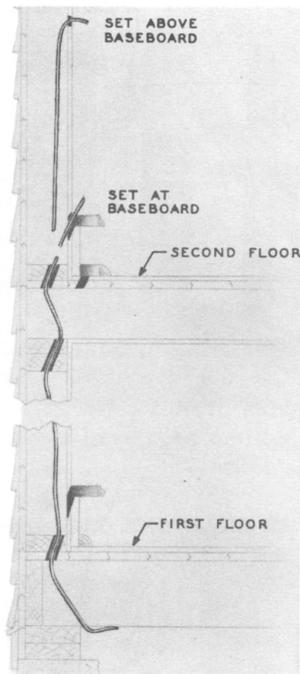

Fig. 3 - Fishing Outside Walls
- Fig. 3 shows a method of fishing walls.